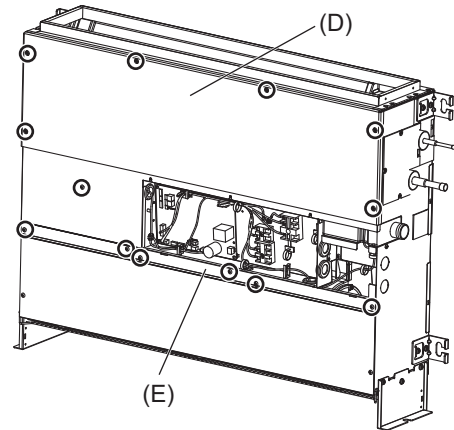

Fig.10
1. Remove the control box cover (A) with procedure [1]-2.
2. Remove the fixing screws on the front plate (D), (E) to remove it. (Fig.10)